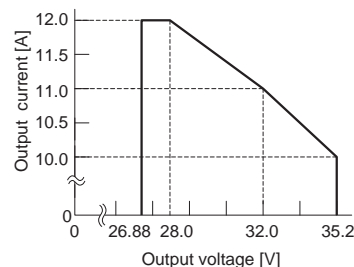

Fig. 4.8 Output Current derating curve (CQHS3504832)
(5) Output current derating (CQHS3504832)
- When the output voltage adjust less than rated output voltage, the output current range becomes increasing as shown in Fig. 4.8.